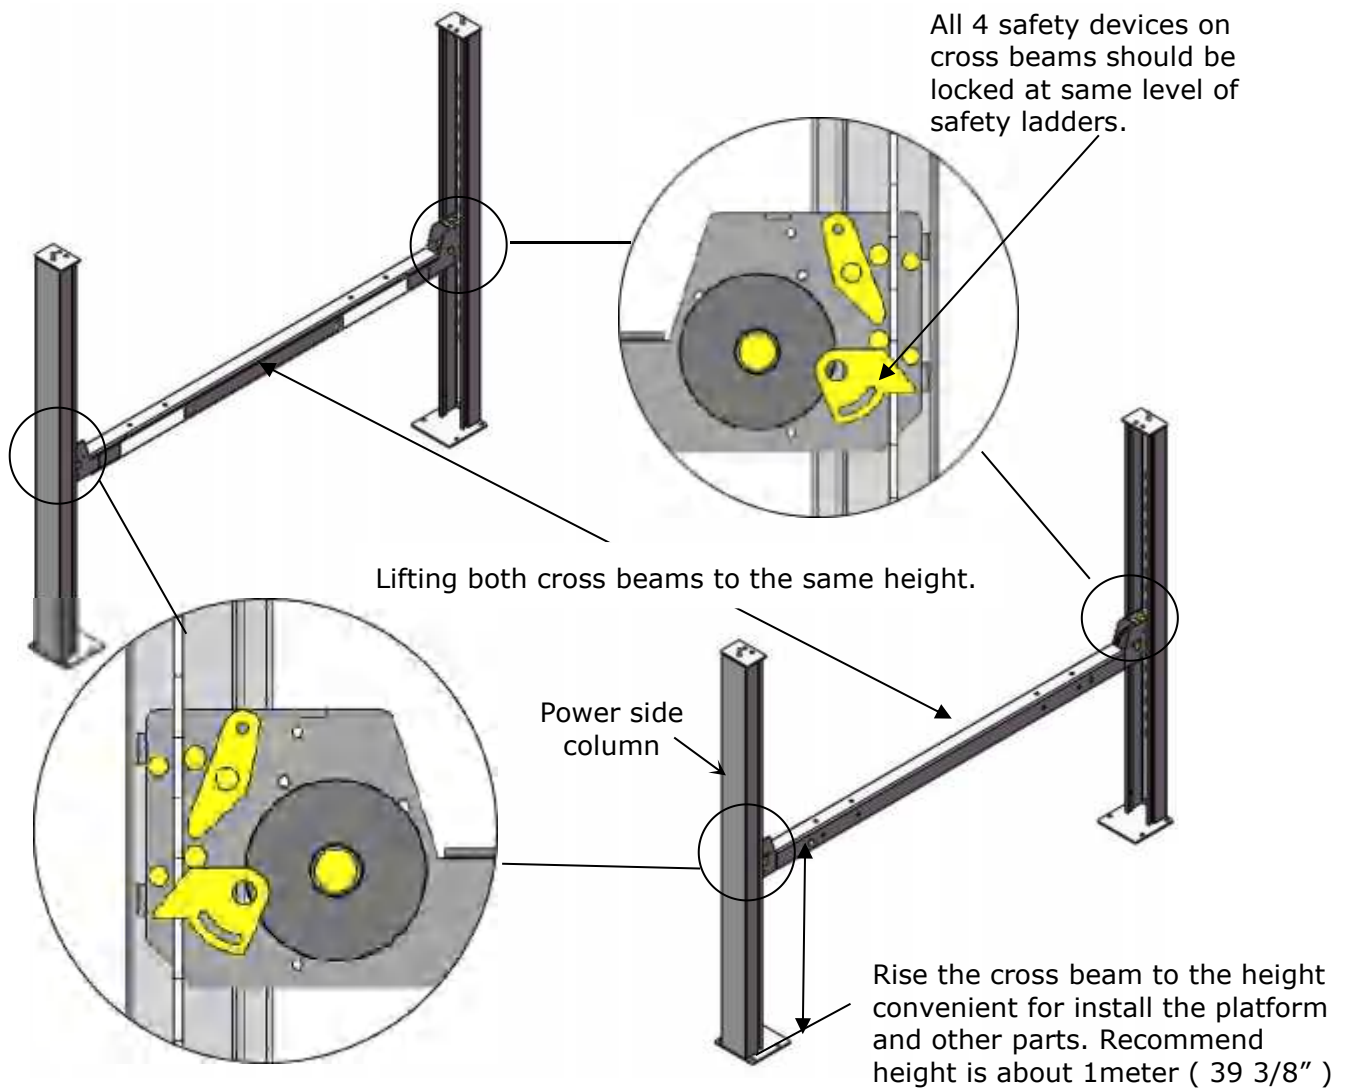

Fig. 19
F. Put the cross beams at the same height and lock on the safety ladder (See Fig. 19).